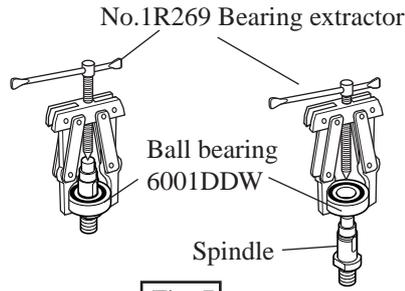

Fig. 7
- (5) And remove ball bearing 6001DDW from spindle with 1R269 "Bearing extractor". See Fig. 7.
- (6) Remove gear unit (spiral bevel gear 9, ball bearing 608LLB, sleeve 8 and helical gear 28) from gear housing. See Fig. 7.